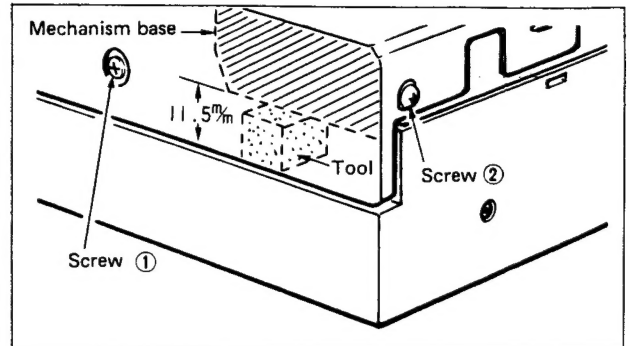

Fig. 4
- Check the standard height between the mechanism base and the cabinet. (11.5 mm: see Fig. 4)
3. Connect the voltmeter between TP501 pins ④ and ① on the control P. C. Board.
5. Then, adjust VR501 so that the voltage between TP501 pins ④ and ① is DC 4.8 V \pm 0.05 V.
6. Move the tonearm back to the center, and adjust the screw in the tonearm rest part so that the voltage between TP501 pins ④ and ① is DC 1.9 V \sim 2.0 V in the tonearm DOWN mode.
Check the standard height (11.5 mm: see Fig. 4) between the mechanism base and the cabinet.